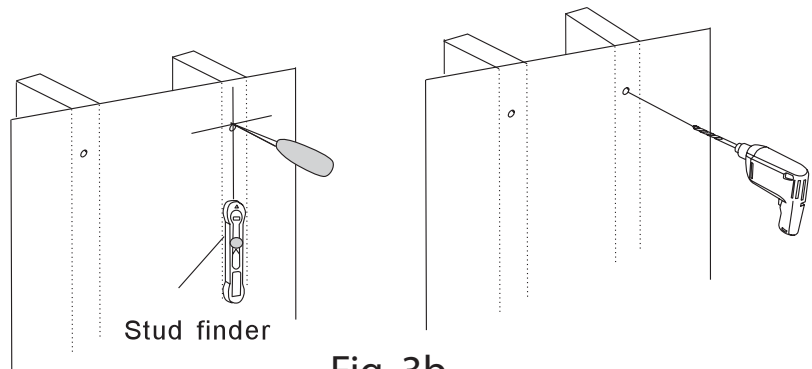

Fig. 3b
2. Place the wall mount flat against the wall with the center of the mount in the desired location, aligning the holes in the mount with the studs (Fig 3b). Use the wall plate as a template to mark the location of the four mounting holes on the wall. Make sure that the mounting holes are level and are parallel.
4. Use a wrench, the four **Long Bolts (A)**, and **Washers (C)** to attach the wall mount to the wall. Do not use wall anchors in wood stud walls.
5. Use the **Magnet Level (3)** placed on the front of the mounting plate to level the wall mount, repositioning as necessary, then firmly tighten the bolts. Do not overtighten.